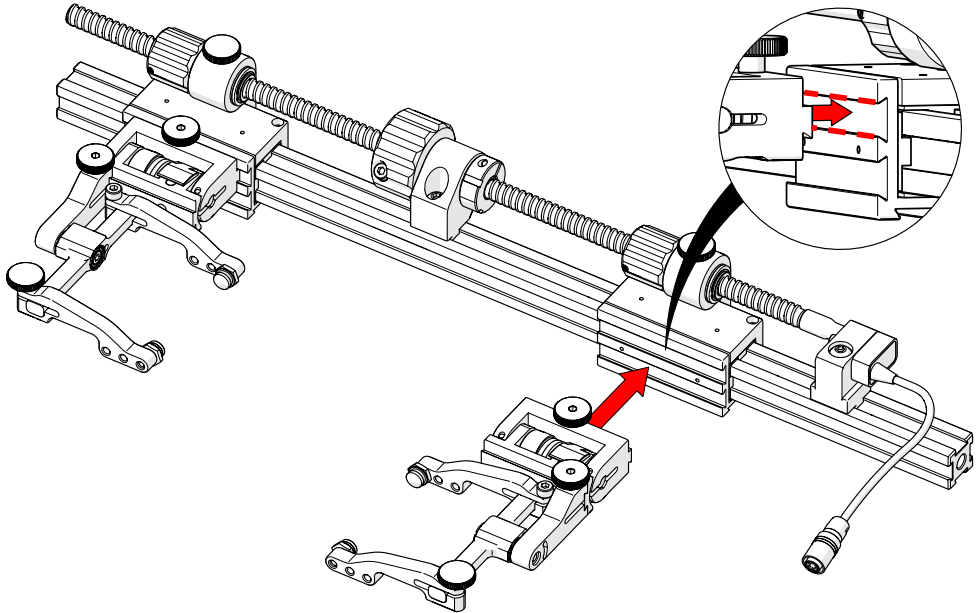

Fig. 171 - Mount probe holders
1. Attach the probe holders (see *Slip Joint Probe Holder on page 29*) to the top groove on the mounting bracket of the slider (Fig. 171).